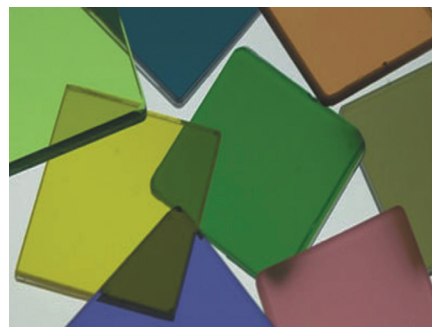

Fig. 2
- b) a “sol-gel”-layer modified with nanometric mineral pigments, allows to develop coloured transparent layers (majolica effects) (Fig. 2).